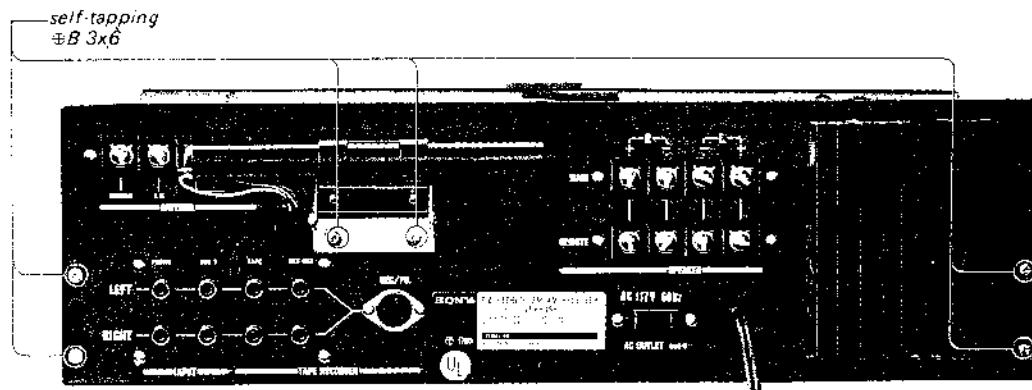

Fig. 2-17. Rear panel removal
4. Remove the six self-tapping screws ($\Phi B 3 \times 6$). two of them secure the bar antenna holder to the chassis along with rear panel and others secure the rear panel to the chassis as shown in Fig. 2-17. This frees the rear panel.